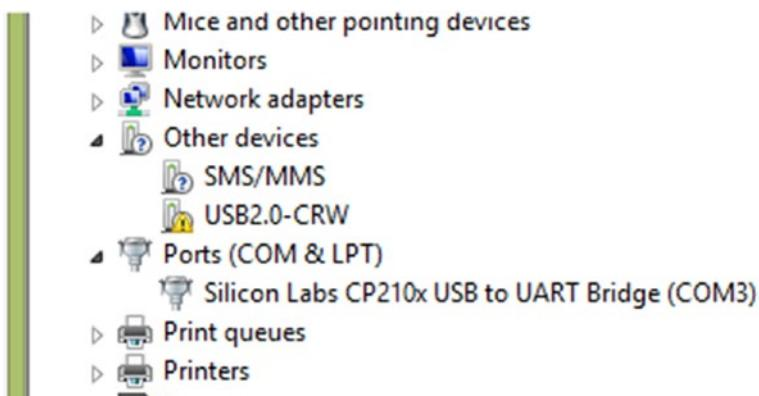

Figure 3-15. The Adafruit Metro is listed as Silicon Labs CP210x USB to UART Bridge under Ports (COM & LPT)
3. Once installed, connect the Adafruit Metro with your computer using the micro-USB cable. Now you can find your Adafruit Metro under Ports (COM & LPT), as shown in Figure 3-15.